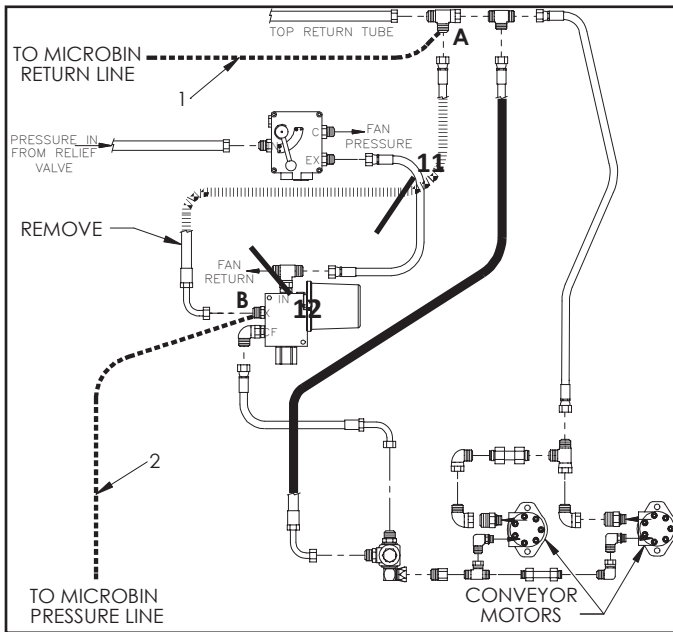

Figure 13A – Rear Valve Hydraulic System
1. Remove Hose shown in Figure 13A and discard.
2. Route new Return Hose (1–Not Supplied) from tee at back of unit’s top return tube (A) to MICROBIN valve’s return.
3. Route new Pressure Hose (2–Not Supplied) from unit’s conveyor valve (B) to MICROBIN’s valve assembly.